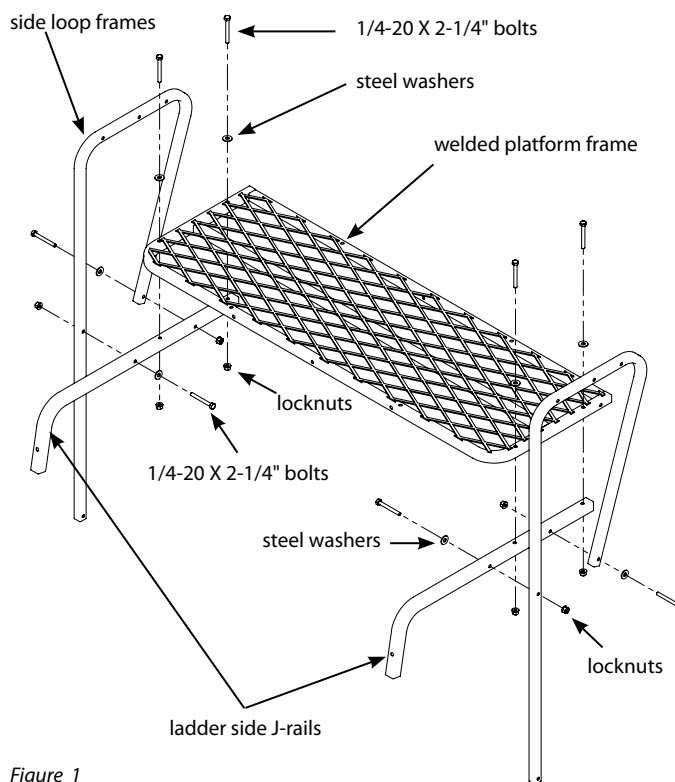

Figure 1
1. Attach (2) ladder side J-rails (411018) to (1) welded platform frame (411021) using (4) provided 1/4-20 x 2-1/4" bolts, locknuts and steel washers. **SEE FIGURE 1. DO NOT tighten all nut and bolt assemblies completely!**
NOTE: Mesh surface of platform should be on top and rounded corners of platform are orientated as per figure 1. This step now makes this platform the seat platform.
2. Attach (2) side loop frames (411024) to the previously assembled ladder side J-rails using (4) provided 1/4-20 x 2-1/4" bolts, locknuts and steel washers. **SEE FIGURE 1.**